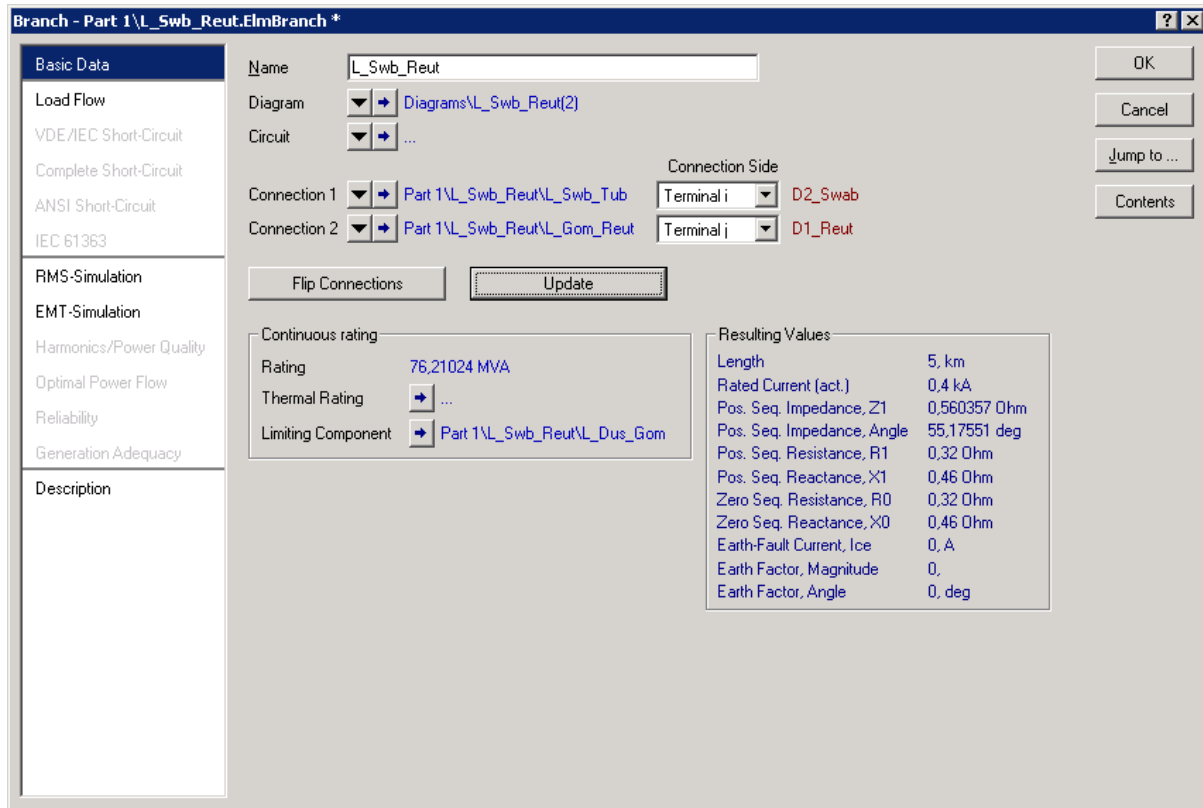

Figure E.4.4: Updated Branch object
- Press the 'Update' button in order to select the connections and the limiting component of the Branch automatically (Figure E.4.4). This will update the Resulting Values of the Branch (length, rated current, impedances etc.), too.